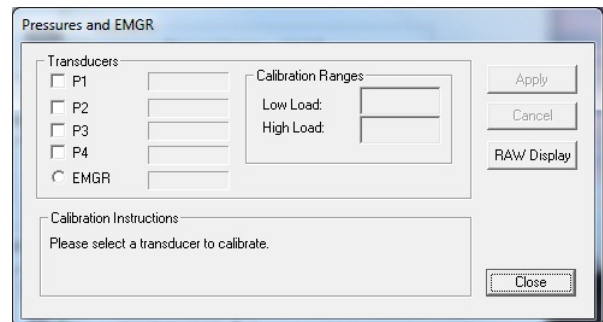

Figure 113: Pressures and EMGR Calibration Window
4. Select the pressures and/or EMG to calibrate under the Transducer heading by checking the applicable box (Figure 113).